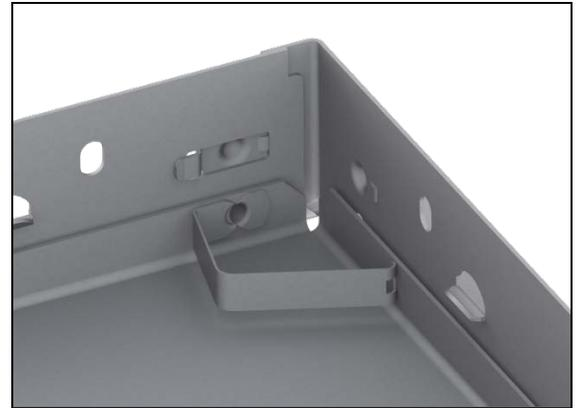

Figure 2
4. Tape and mud as required (Figure 2).